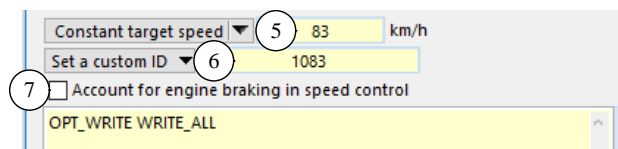

Figure 10. Setting a constant target speed.
- ⑤ Speed / Acceleration option. This drop-down list has options for controlling the vehicle speed using open-loop throttle or the closed-loop speed controller.
If the choice is made for **Constant target speed**, two more controls are shown (Figure 10). As with the **Procedures** screen, a yellow field is shown for the target speed and a checkbox is shown to enable the use of engine braking by the speed controller ⑦.
7 When the speed control option is set to Constant target speed (Figure 10), this checkbox is used to specify whether the speed controller will account for engine braking. Other settings for the speed controller will keep their existing settings. If needed, their values can be changed by setting them in one of the Misc. yellow fields.